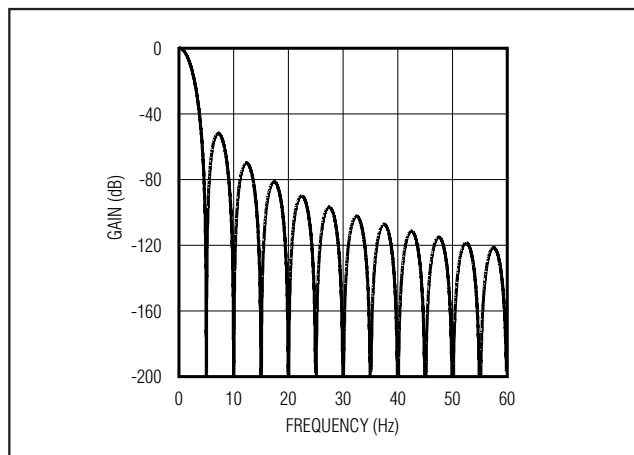

Figure 2. Frequency Response of the SINC4 Filter (Notch at 60Hz)
- Note 7:** Measured at DC by changing the power-supply voltage from 2.7V to 5.25V and measuring the effect on the conversion error with external reference. PSRR at 50Hz and 60Hz exceeds 120dB with filter notches at 50Hz and 60Hz (Figure 2).
Figure 2 shows the filter frequency response. The SINC4 characteristic -3dB cutoff frequency is 0.228 times the first-notch frequency (5Hz).